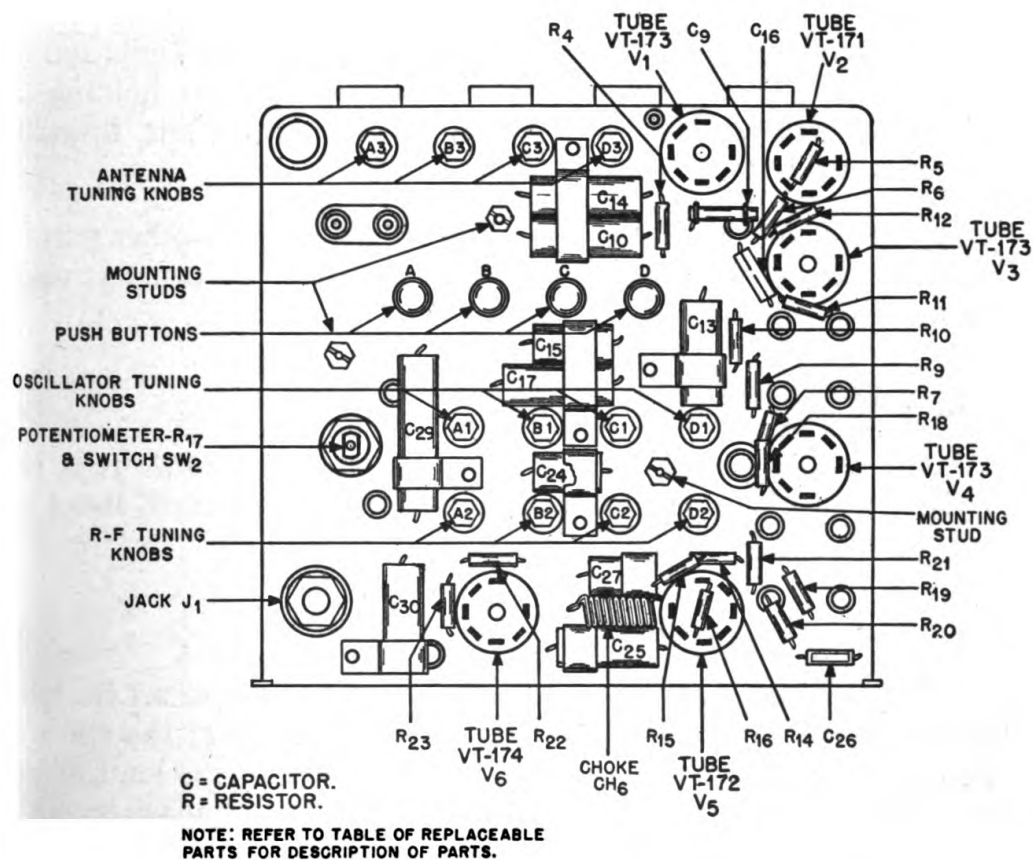

FIGURE 19—RADIO RECEIVER BC-728-A, CHASSIS—
a. Tuning Assembly.—Remove the tuning assembly from the radio receiver by removing the three mounting studs holding it to the chassis. (See Figure 19.) Unsolder the leads connecting it to other parts, and lift the tuning assembly from the chassis.